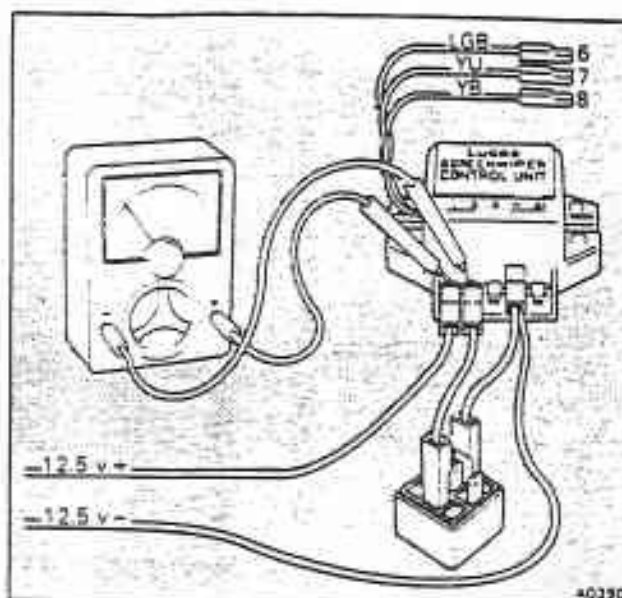

Fig. M9-1 Testing the electronic control unit
4. Connect a voltmeter to the unit as shown in figure M9-1 (i.e. positive connection to terminal 1, negative connection to terminal 2). Ensure that the voltmeter is set on the 12 volt dc scale.
5. Using a spare 12 volt relay connect the relay windings (terminals 85 and 86) to terminals 2 and 4 of the control unit (see fig. M9-1).